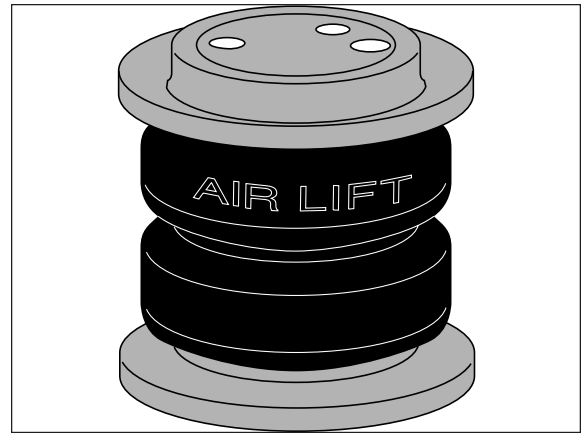

Figure 2
1. Set roll plates (B) on the top and the bottom of the air spring (A). (Figure 2)